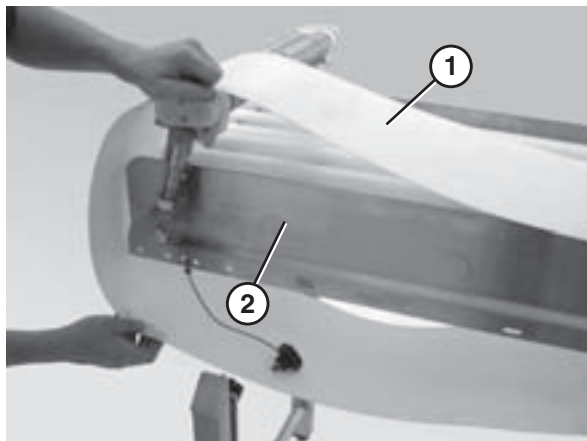

Figure 33
7. Slide the belt (Figure 33, item 1) on over the conveyor frame (Figure 33, item 2).